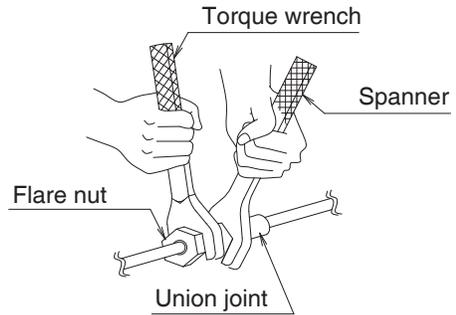

Fig. 10
- When connecting the piping to the air conditioner, make sure to use a spanner and a torque wrench as shown in Fig. 10.